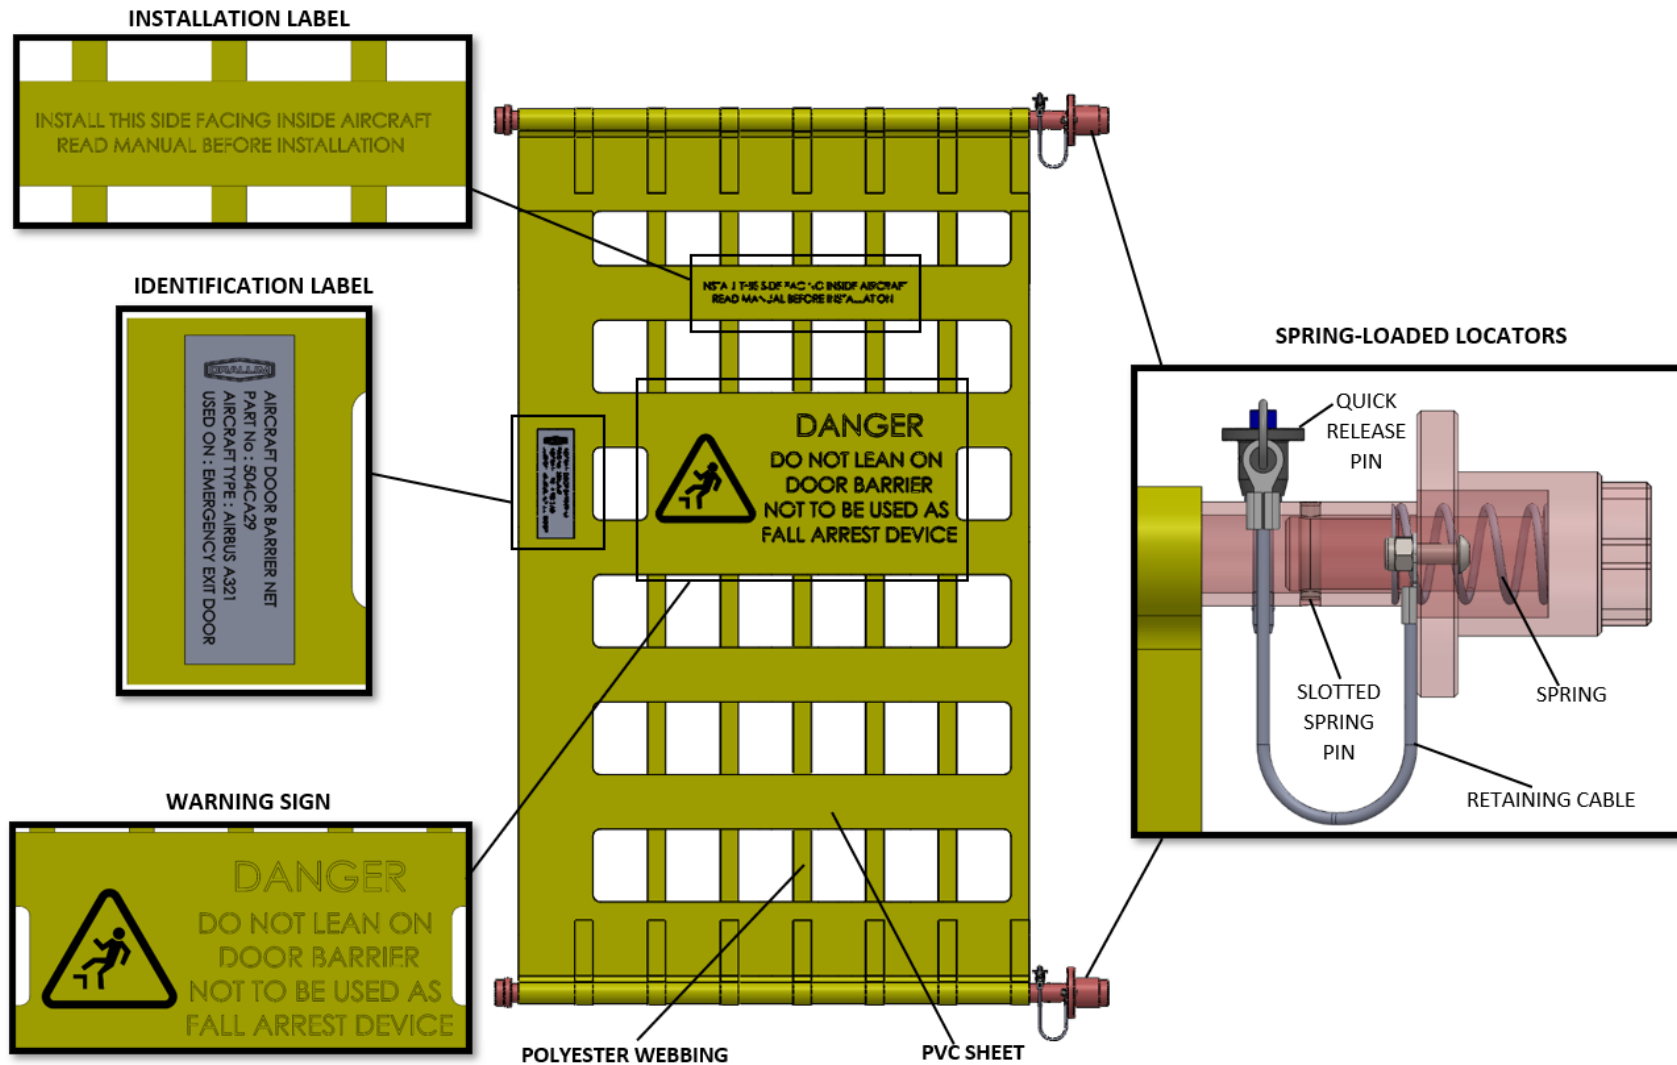

Figure 4 Inspection Diagram
- 3.3.2 Check condition of the **PVC Sheet, Polyester webbing** and **stitching** for defects and damage i.e., scaring, abrasion, flaring and cuts Refer to figure 4.